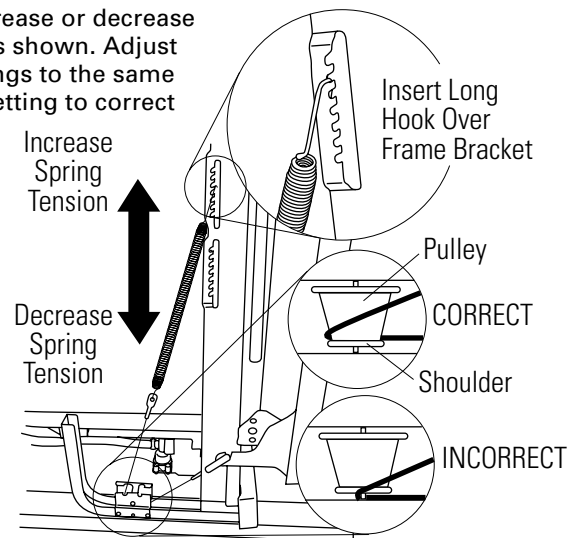

Figure 9
- Repeat the same procedure on the left side of the unit. Both springs should be on the same notch on the frame bracket as shown in Figure 9.
Check to be sure the spring cable is routed correctly before making spring adjustments. The cable is held in place by "shoulders" on the pulley. See Figure 9. Check to be sure the cable has not slipped over the pulley shoulder and onto the axle.